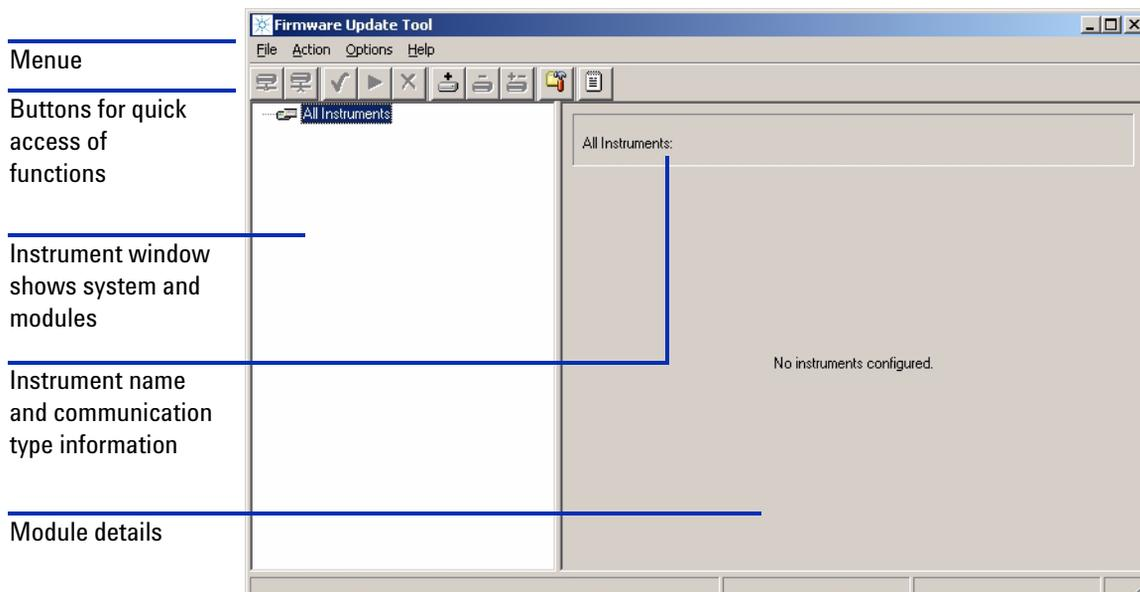

Figure 16 Start-up screen
- 1 Start the LAN/RS-232 Firmware Update Tool 2.6 via the shortcut, see “Installation of the LAN/RS-232 Firmware Update Tool” on page 34. Figure 16 shows the initial screen.